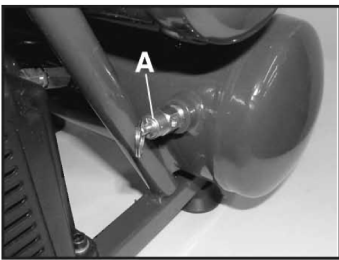

FIGURE 6
SAFETY PRESSURE RELEASE VALVE (A) FIG. 6
- 4) Pull ring on safety valve (A) Fig.6, allowing air to bleed from the tank until tank pressure is approximately 20 PSI. Release safety valve ring
NOTE: If drain valve is plugged, pull ring on safety valve (A) Fig.6, and hold until all air pressure has been